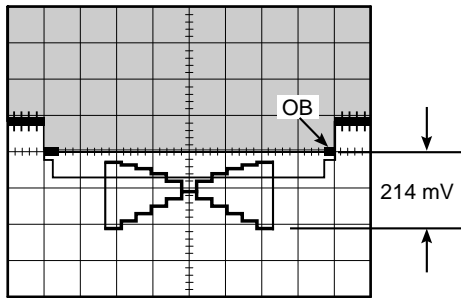

Fig. 4-2
- Adjust the Lens Iris so that the CCD output signal at TP1 becomes 214 mV as shown in Fig. 4-2.